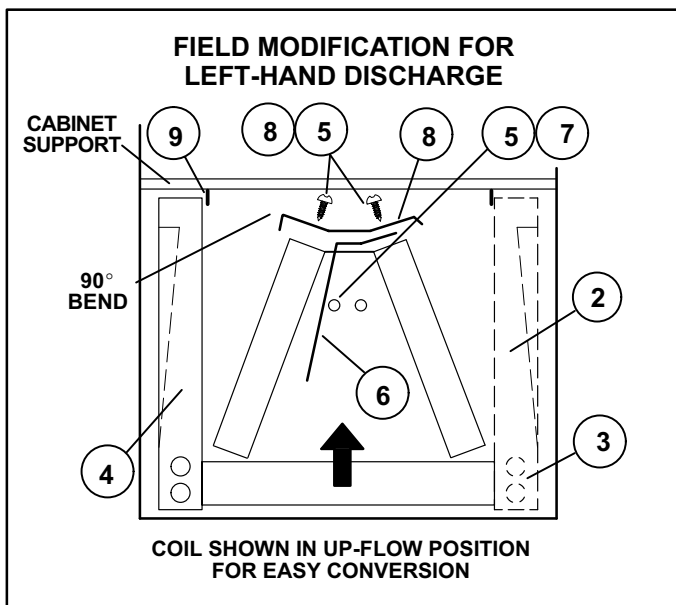

FIGURE 28
- 5- Remove screws from top cap. Remove horizontal drip shield screw located in the center of the back coil end seal. See figure 28.
- 8- Rotate top cap 180° front to back and align with unused screw holes. Holes must align with front and back coil end plates. Note that top cap has a 45° bend on one side and 90° bend on the other. **The 90° bend must be on the same side as the horizontal drain pan.** See figures 28 and 29.
- 9- From the upflow position, replace coil assembly. Then flip cabinet 90° to the left and set into place. Replace coil assembly. Secure coil in place by bending down tab on cabinet support rail. See figures 28 and 30.